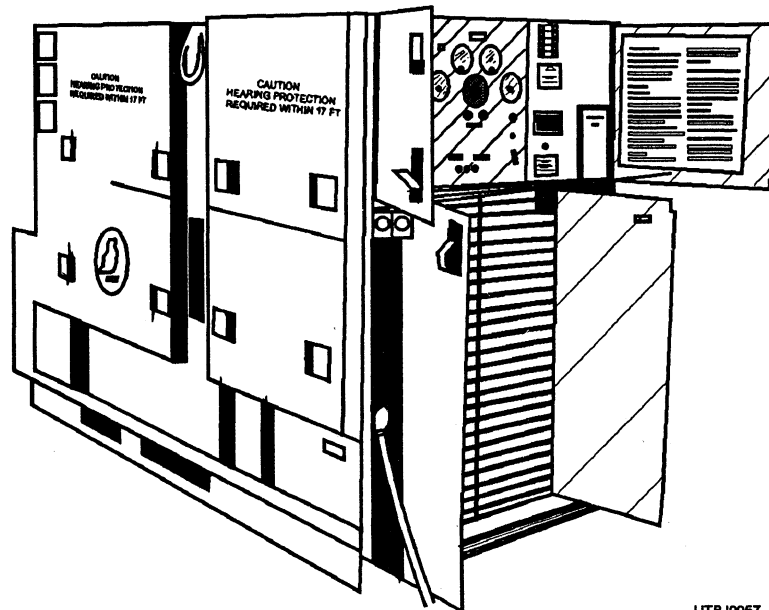

Figure 2-29.—Generator skid-mounted.
**SUPPORT EQUIPMENT.**—The self-contained skid-mounted ROWPU unit requires a portable generator capable of providing 30 kilowatts of power (fig. 2-29).